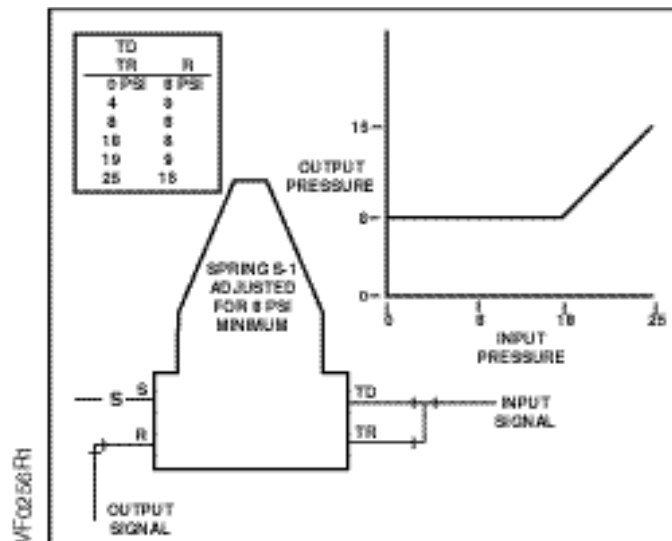

Figure 6. Minimum Pressure Relay with Hesitation Output.
5. Minimum pressure and hesitation output relay (See Figure 6).